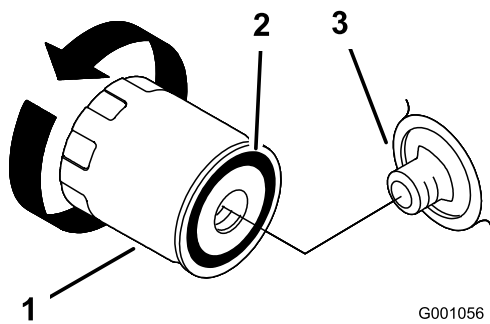

Figure 39
2. Remove the old filter and wipe the filler adapter gasket surface (Figure 39).
5. Apply a thin coat of new oil to the rubber gasket on the replacement filter (Figure 39).
6. Install the replacement oil filter to the filter adapter, turn the oil filter clockwise until the rubber gasket contacts the filter adapter, then tighten the filter an additional 2/3 to 1 turn (Figure 39).